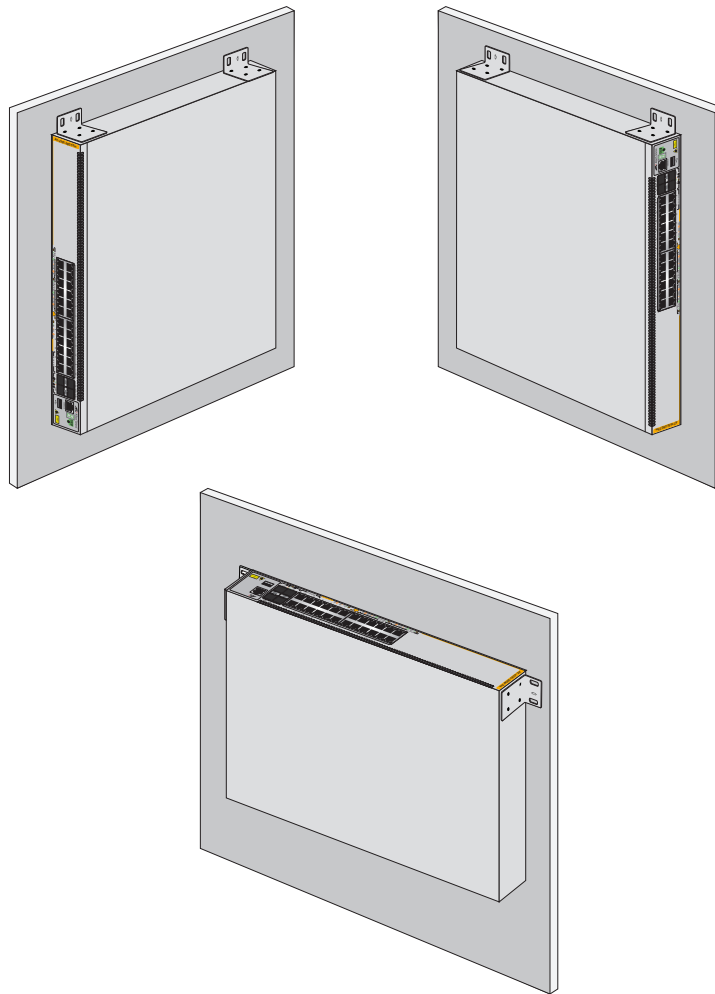

Figure 31. Positioning the x530-28GTXm or x530-28GSX Switch on the Wall
- ❑ Install the x530-28GTXm or x530-28GSX switch on a wall with the front panel facing up, left or right, as shown in Figure 31. Do not install the switch with the front panel facing down.
- Position it so that the front panel is facing up, left or right. Refer to Figure 31 on page 82. Do not install it with the front panel facing down.